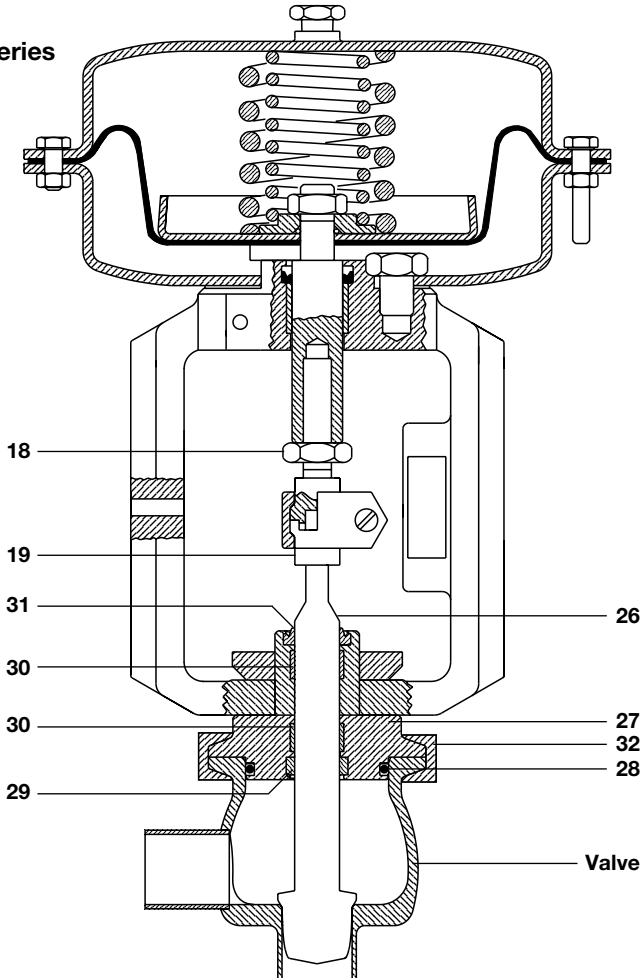

**Fig. 2 SQ valve**
**Reference Figures 2 and 3:**
- Remove the bottom adaptor (19).
- Remove the body clamp (32), lift the bonnet (27) and free the stem (26) from the bonnet.
- Examine parts for any signs of damage and/or wear. Score marks or scaly deposits on the valve stem (26) could damage the seals, and it should therefore be replaced. Fit the new seals (29, 30 and 31) after liberally smearing them with the appropriate FDA approved oil.
- Clean the parts taking care to avoid scratching the stem (26) or the packing chamber. Refit the cleaned or replacement valve stem and plug.
- Using a new bonnet seal (28), replace the bonnet (27) on the valve body (if it is the SH valve which is being serviced, also replace the body seal (28)), leaving the stem protruding. Tighten the body clamp (32).
- Ensure the valve stem (26) can move freely.